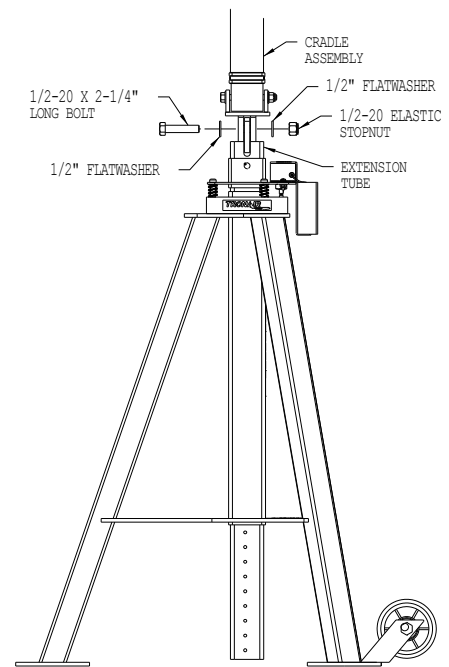

FIGURE 3
2. Fasten cradle assembly to extension tube with one (1) ½ - 20 x 2 ¼ inch hex head bolt, ½ inch flatwasher, and ½ - 20 elastic stopnut. Reference Figure 3.